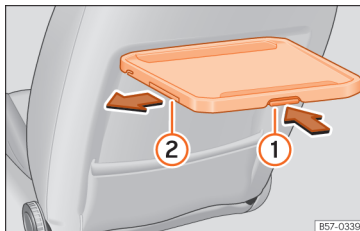

Fig. 5 Front left seat: folding table with drinks holder.
- Press the unlocking lever under the table » **Fig. 5** ① and keep it that way.